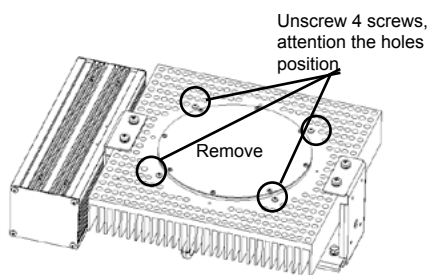

Fig1.
1.3. Unscrew 4 screws off heat sink as fig 1, take a reflector and put reflector hole aligned with the heat sink hole fix the screws with reflector as fig 2.